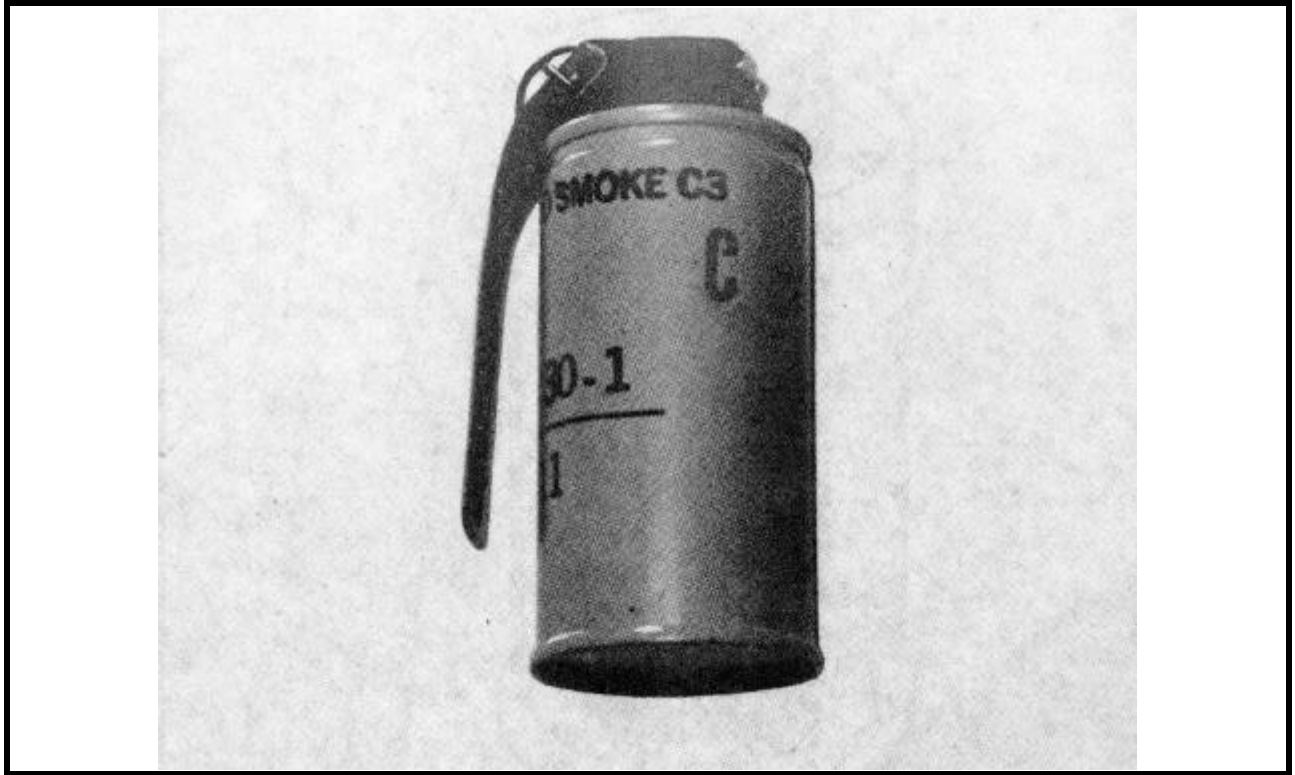

Figure 2-24 Grenade, Hand, Smoke, C3 Series
2. See Figure 2-24 and Chap 1, Annex C.